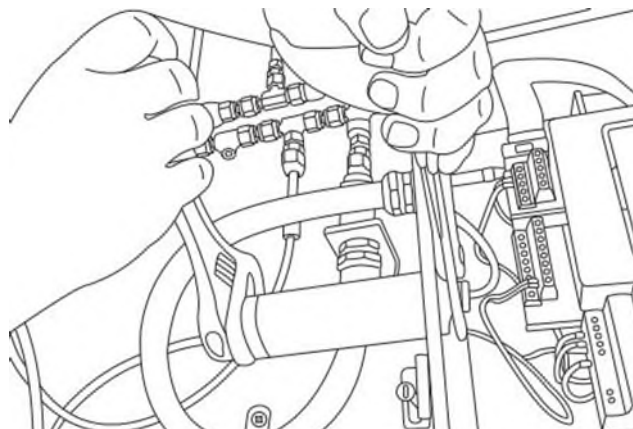

Figure 83. Removing the pressure sensor
- Loosen the panel mount nut from the pressure sensor on the inside of the enclosure with the adjustable wrench. Refer to Figure 83.